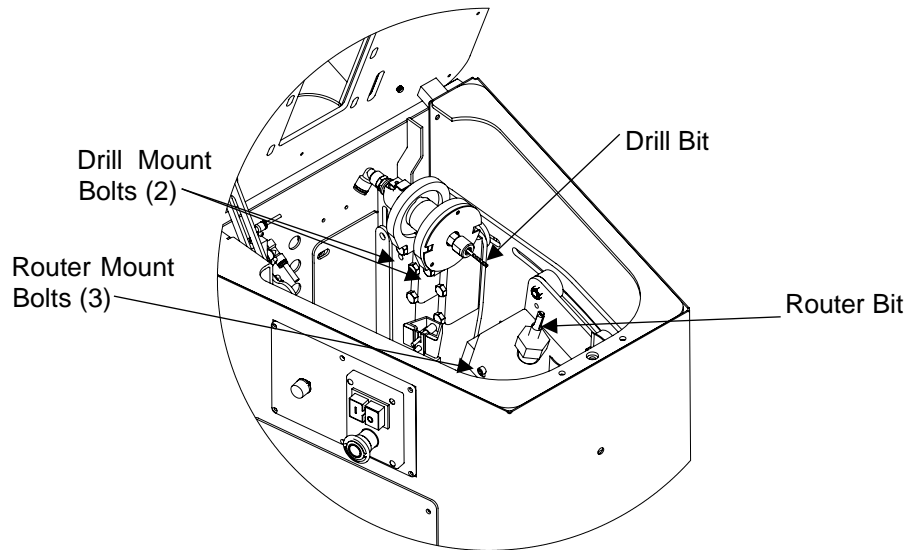

Figure 21: Motor Removal (SPM301HD shown)
5. **SPM301HD router only:** Remove the three lock nuts from Router Mount Bolts (Fig. 21).
6. **SPM301HD router only:** Loosen the three Router Mount Bolts (Fig. 21). Support the motor by hand while removing the three Router Mount Bolts.